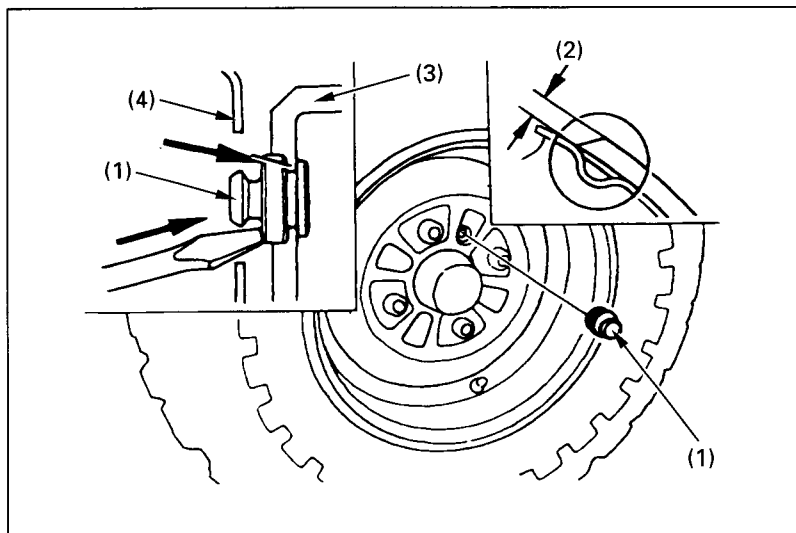
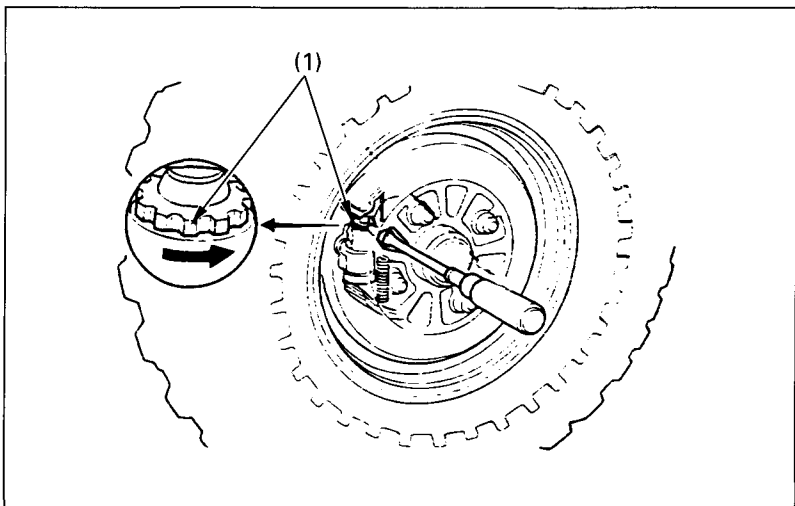

Fig. 4-25
Fig. 4-26
(1) Front brake lever
2. Remove the inspection hole plug (Fig.4-25) and measure the lining thickness (2) on both front wheels.
3. If the brake lever free play and the brake shoe lining thicknesses are within the recommended limits, reinstall the inspection hole plugs, seating them into the inspection holes as shown in Fig. 4-25.
3. Beginning with either the left or right front wheel, remove the inspection hole plug (Fig. 4-25) and line up the hole with one of the brake adjusters (Fig. 4-26).
4. Using a screwdriver, turn the brake shoe adjuster (1) in the direction of the arrow until the front brake locks.
(1) Brake adjusters
7. Reinstall the inspection hole plug, seating it into the inspection hole as shown in Fig. 4-25.